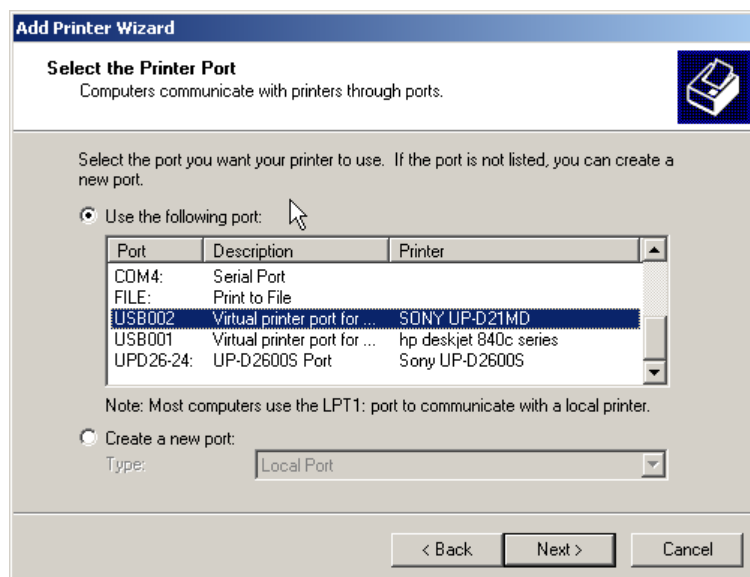

Figure 3-37 Select Printer Port
- 9.) Select the corresponding Printer Port (e.g., Figure 3-37 Sony UP-D21MD = USB002) and click NEXT.